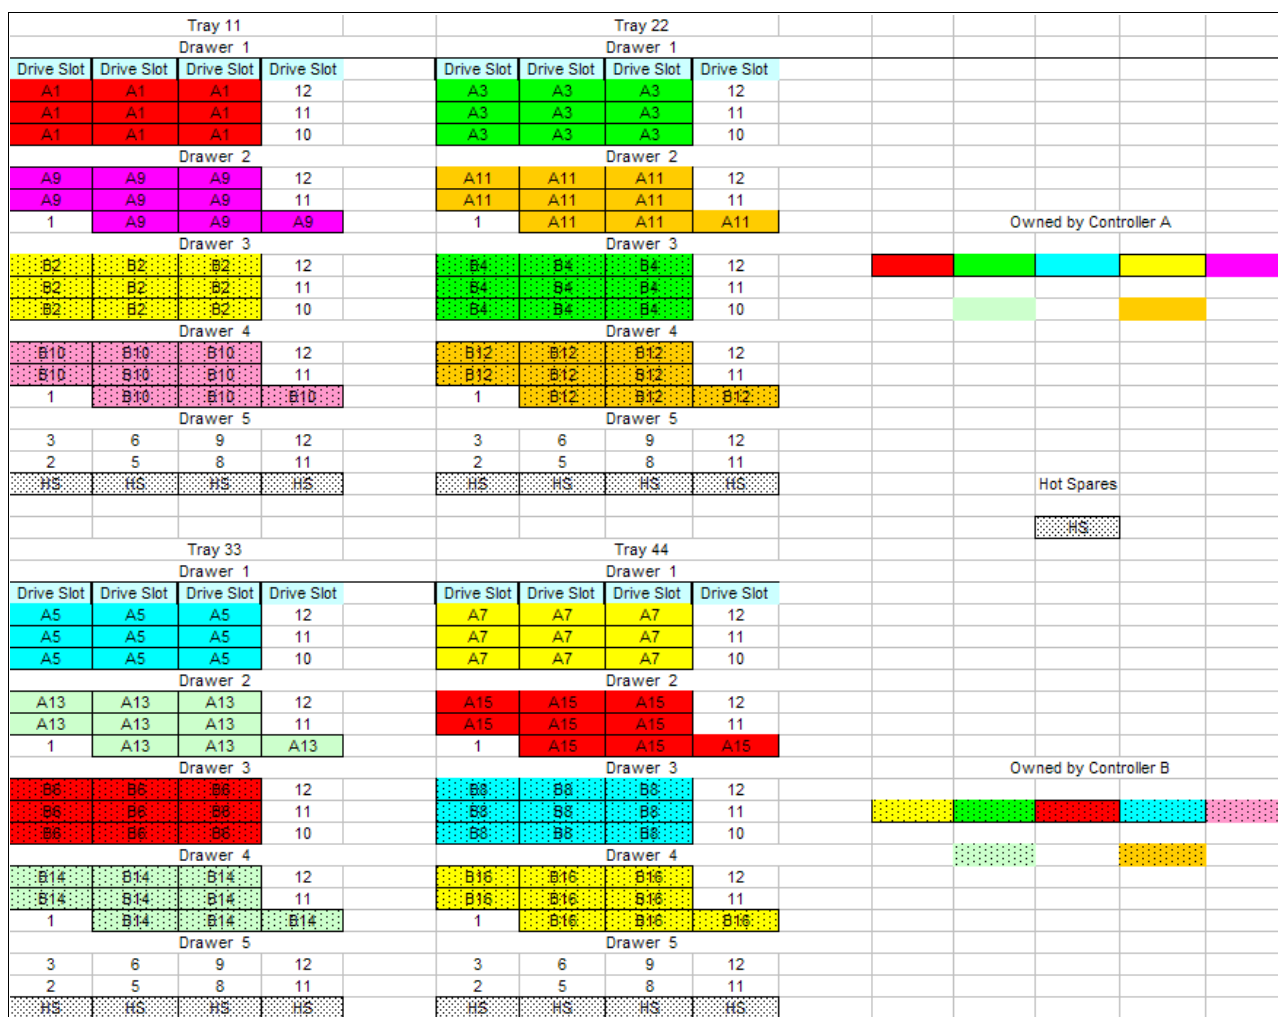
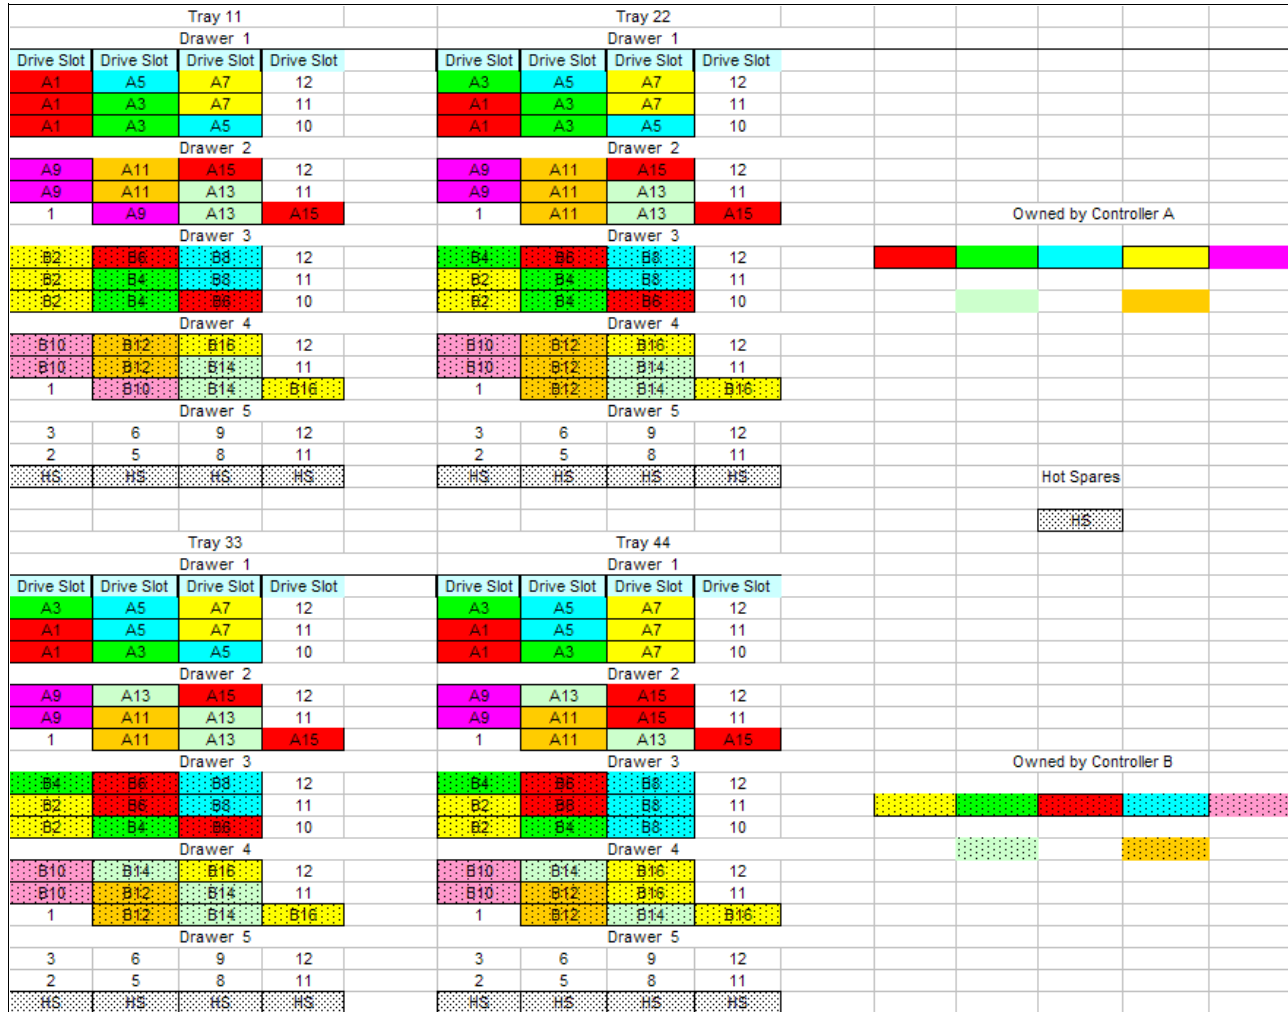

Figure 4-1 An 8 + P single enclosure and a single drawer array group layout
Figure 4-2 Test with an 8 + P shared enclosures and dedicated drawers for array group layout
We defined the following example test case layouts in 8 + P RAID5 array groups (Figure 4-1). Our testing demonstrated the maximum throughput performance numbers that are shown in Table 4-1.
Table 4-1 Maximum performance test results as seen with the Figure 4-1 configuration
Figure 4-2 on page 30 shows 8 + P shared enclosures with dedicated drawers for the array group layout. Table 4-2 on page 30 shows the maximum performance test results for the Figure 4-2 on page 30 configuration.
Table 4-2 Maximum performance test results as seen with the Figure 4-2 configuration
As shown in Table 4-1 on page 29 and Table 4-2 on page 30, with Figure 4-1 on page 29 and Figure 4-2 on page 30, these tests adhered to the following best practice recommendations:
- ▶ Ensure that the array groups were created with as equal a balance of odd and even disks slots as possible for balanced channel or Environmental Service Module (ESM) workloads. Figure 4-2 on page 30 shows this practice. We have an odd number of drives in an array, but we have made sure to build them as equal arrays as much as possible by alternating the ninth drive of each array between the odd and even slots to keep the channels balanced.